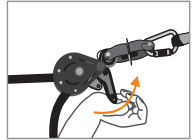

Fig. 5
To uninstall the lifeline, pull on the cam lever (4) (Fig. 5). Unhook everything and repack it in its original bag. Do not leave the lifeline installed after an intervention; it must be installed for no more than one day of work.